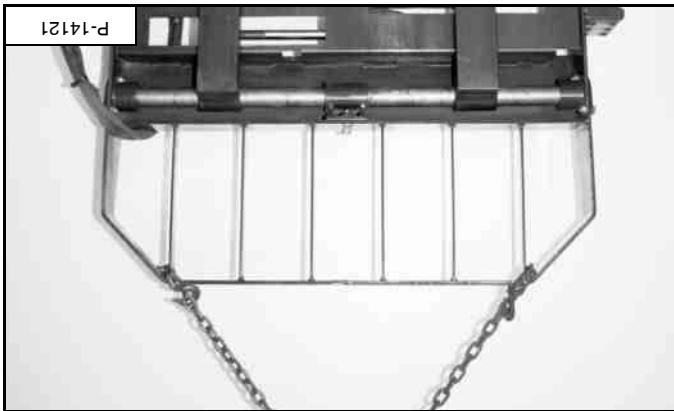

Figure 56
**NOTE:** Fasten chains to the hydraulic pallet fork at the top of the main frame [Figure 56].